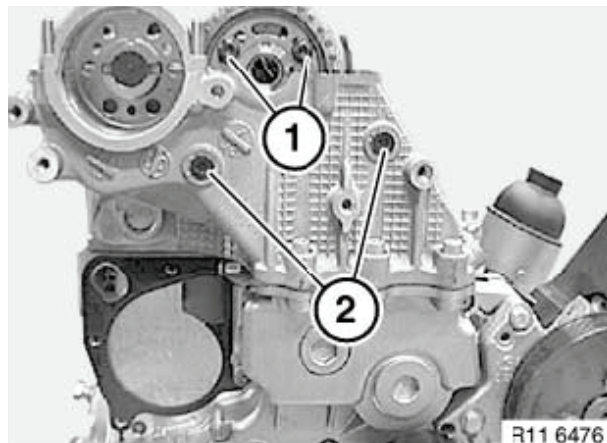

Figure 5-97
14. **NOTICE:** NEVER remove the camshaft sprocket screws without first locking the chain tensioner in the released position. Remove two remaining screws (**Figure 5-97, (1)**).
15. Remove two guide rail bearing pins (**Figure 5-97, (2)**).